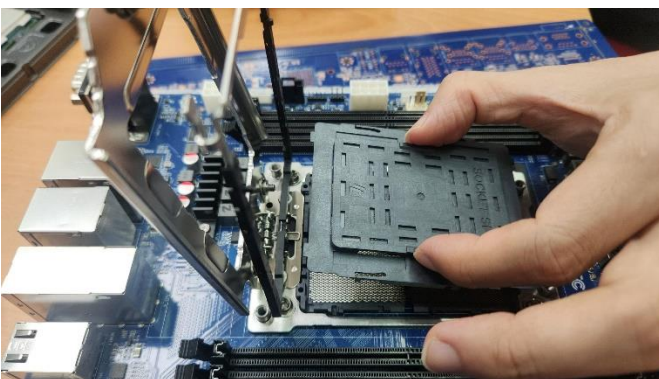

Figure 5.2
- B. Carefully remove the PnP Cap in a vertical motion only. (Figure 5.2)